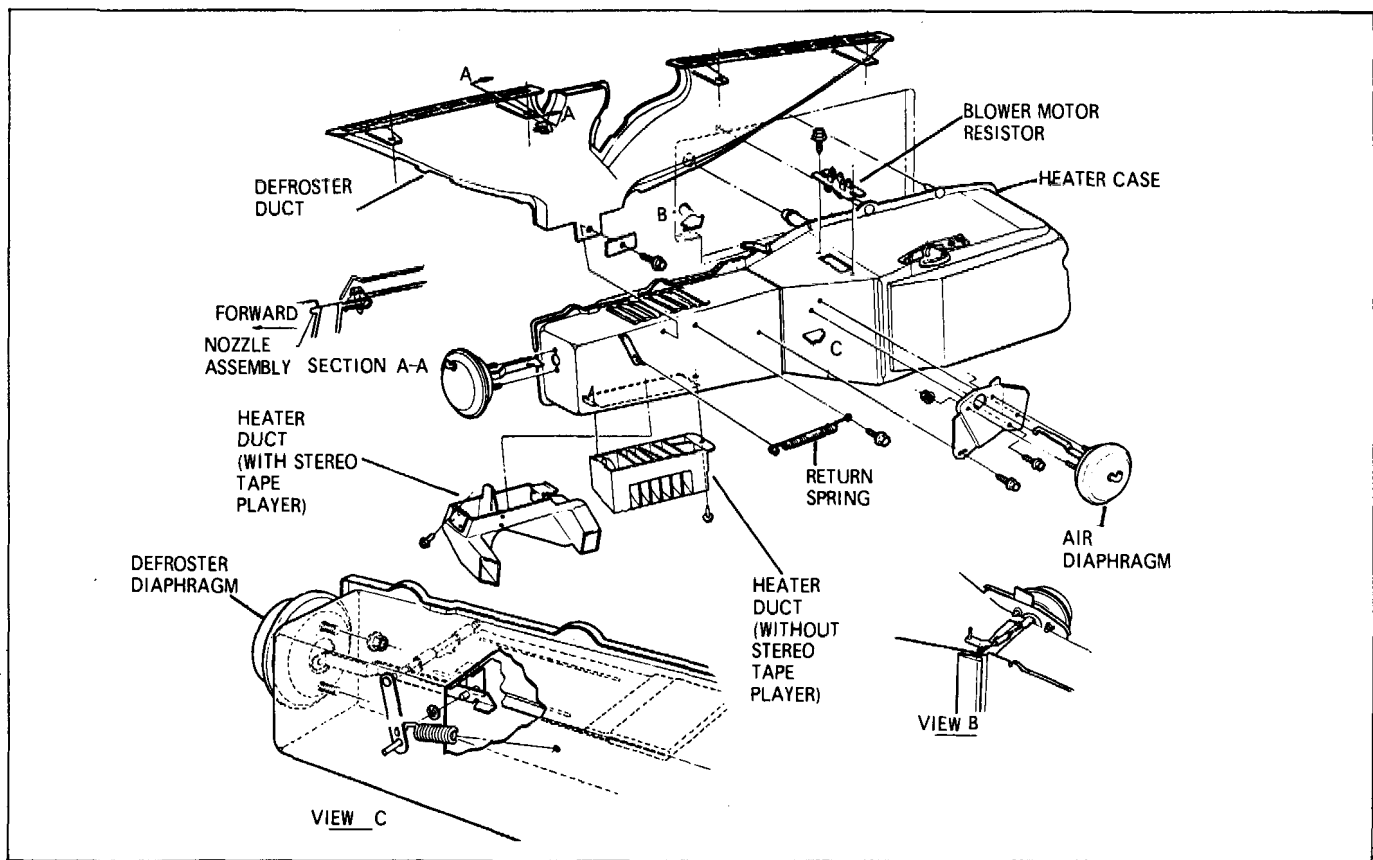

Fig. 1-21 G Series Vacuum Diaphragm and Duct Installation
6. On A Series, bend (4) defroster duct retaining tabs and remove duct. On G Series, remove (4) defroster duct retaining screws from instrument panel pad and remove duct.
7. To replace reverse removal procedure, check heater cable operation and adjust if necessary. For installation, see Figs. 1-21 (G Series) and 1-22 (A Series).
1. Disconnect vacuum hose from diaphragm (Fig. 1-21).